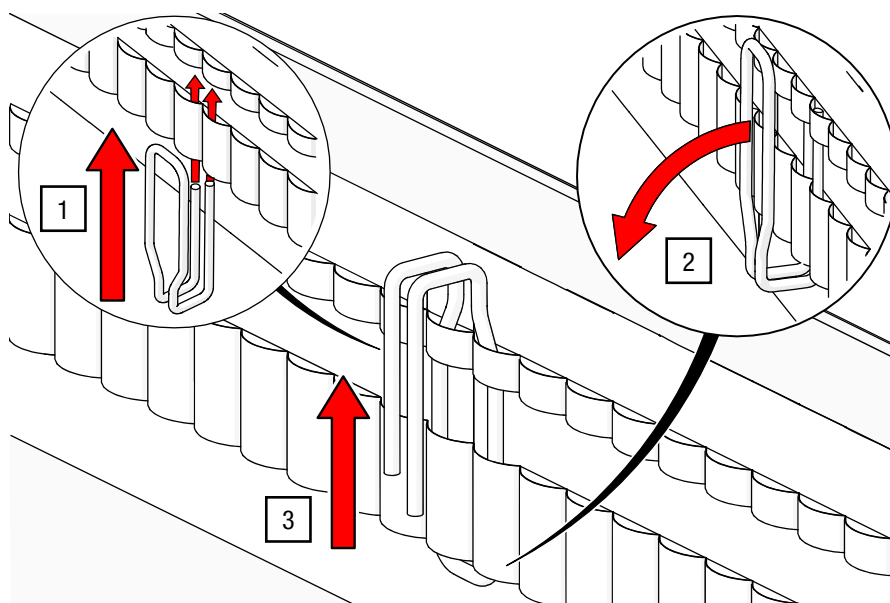

Fig. 100: Curtain hook – Insert into pleating tape (Theatre and Interior)
1. Insert both ends of the curtain hook into one loop of the pleating tape each (see Fig. 100).
2. Push the curtain hook with the ends through the curtain and rotate it by 180° (see Fig. 100).
3. Pull the curtain hook upwards into position (see Fig. 100).